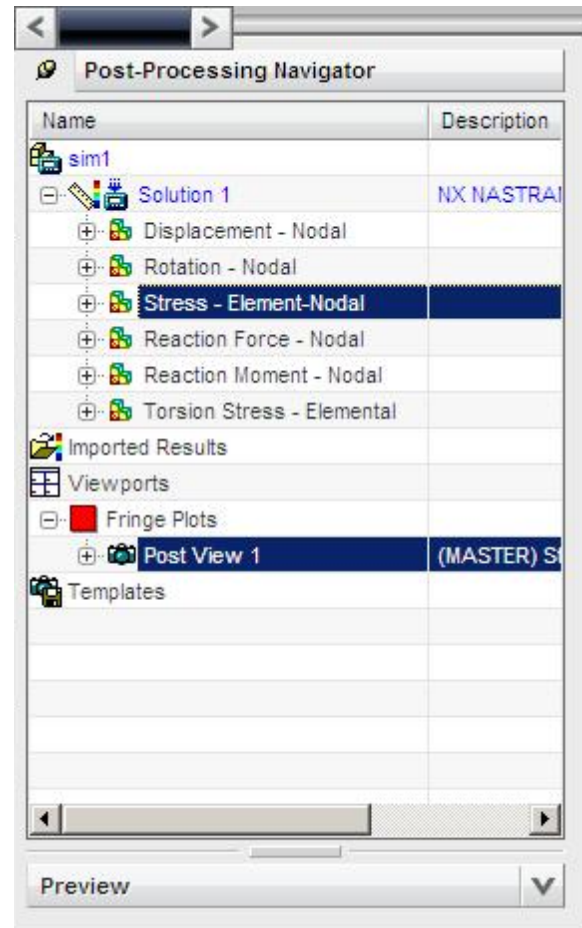

Figure 10. Post-Processing Navigator.
- a) In the Simulation Navigator double-click on *Results* to bring up the “Post-Processing Navigator” shown in Figure 10.